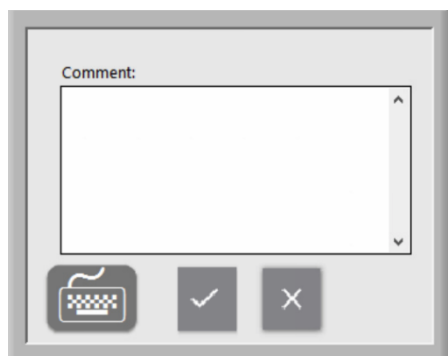

Figure 45: Comment window
- If desired, a comment can be added to the Assay Results.pdf by tapping on the **Add Comment** button. This will open a window where the user can add a comment (Figure 45).